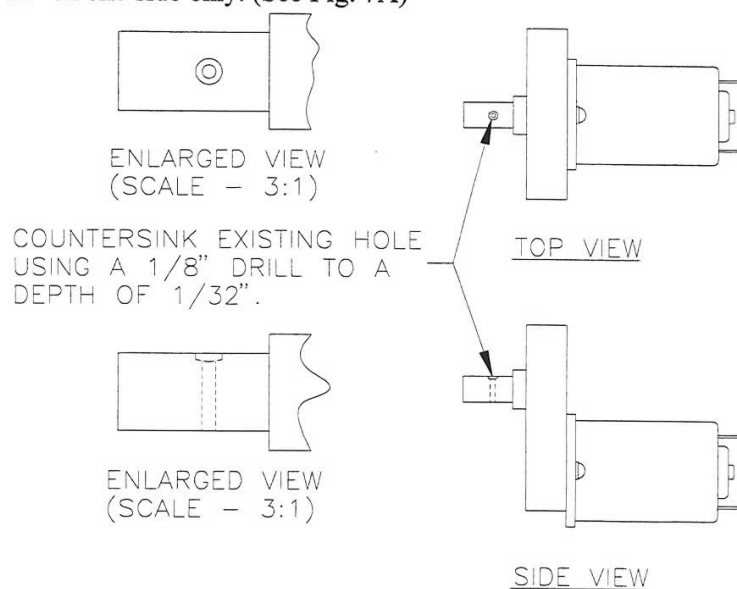

FIGURE 7A
- 8A. Using a 1/8" diameter drill, countersink the existing hole in the shaft to a depth of 1/32" on one side only. (See Fig. 7A)